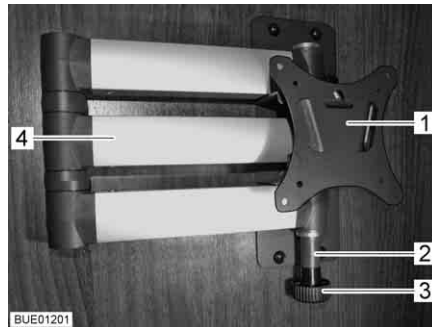

Fig. 64 Holder with jointed arm
- Pull the release knob (Fig. 64,3). The jointed arm (Fig. 64,4) is unlocked.
- Turn the flat screen back into the original position until the holder (Fig. 64,1) engages in the lock (Fig. 64,2).